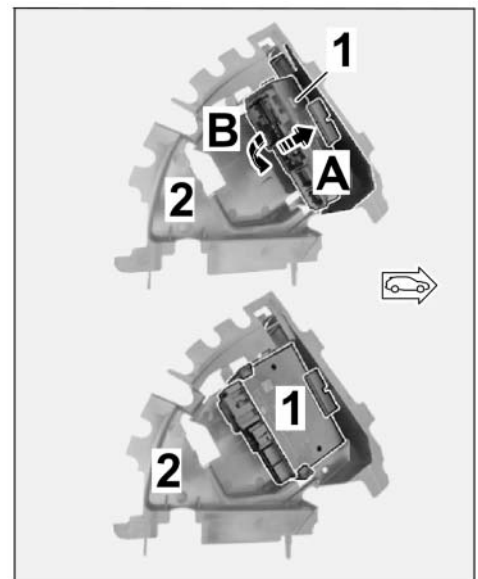

Figure 13
2.4.5 Install the trailer hitch control unit in the bracket (⇒ *Figure 13*).